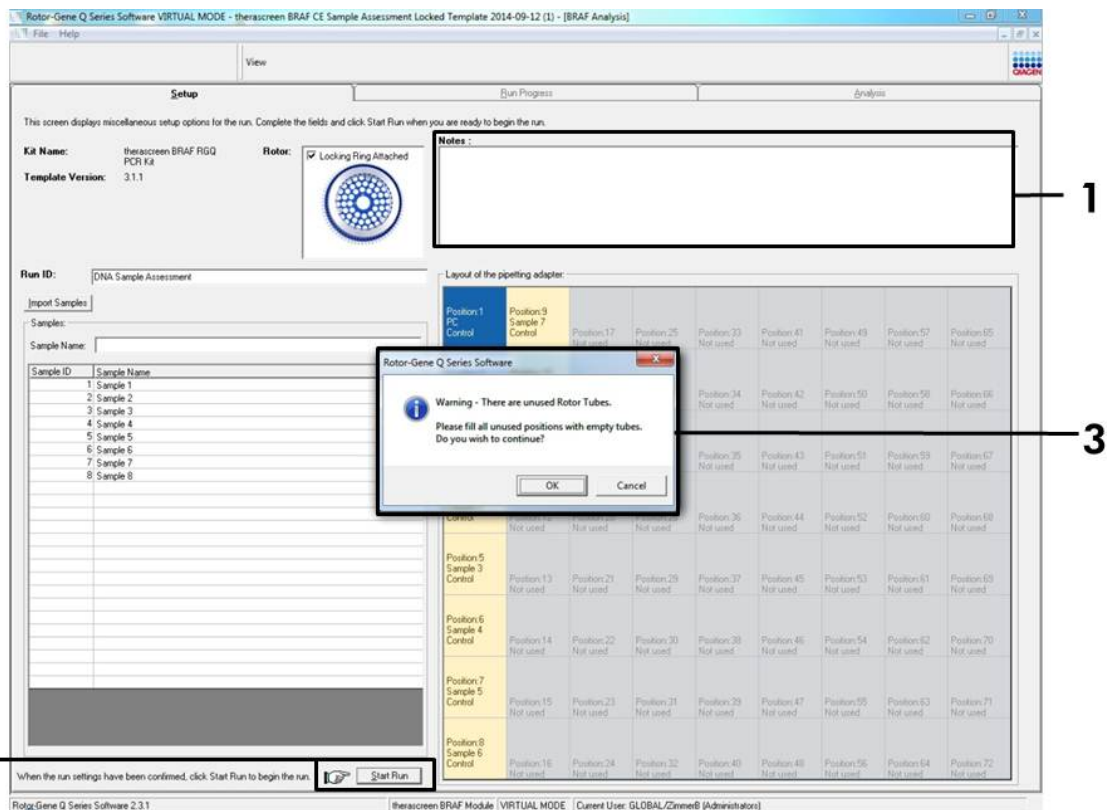

Figure 6. “Notes” dialog field (1), the “Start Run” button (2) and “Warning” of unused rotor positions (3).
13. When all sample names have been entered, verify they are correct. Add any additional information in the “Notes” dialog field if necessary and then click the “Start Run” button (Figure 6).
Note: If any rotor position is unused, a “Warning” will appear (Figure 6) to remind the user that all unused positions on the rotor must be filled with a capped, empty tube. Check that all unused rotor positions are filled with a capped, empty tube and click “OK” to proceed.